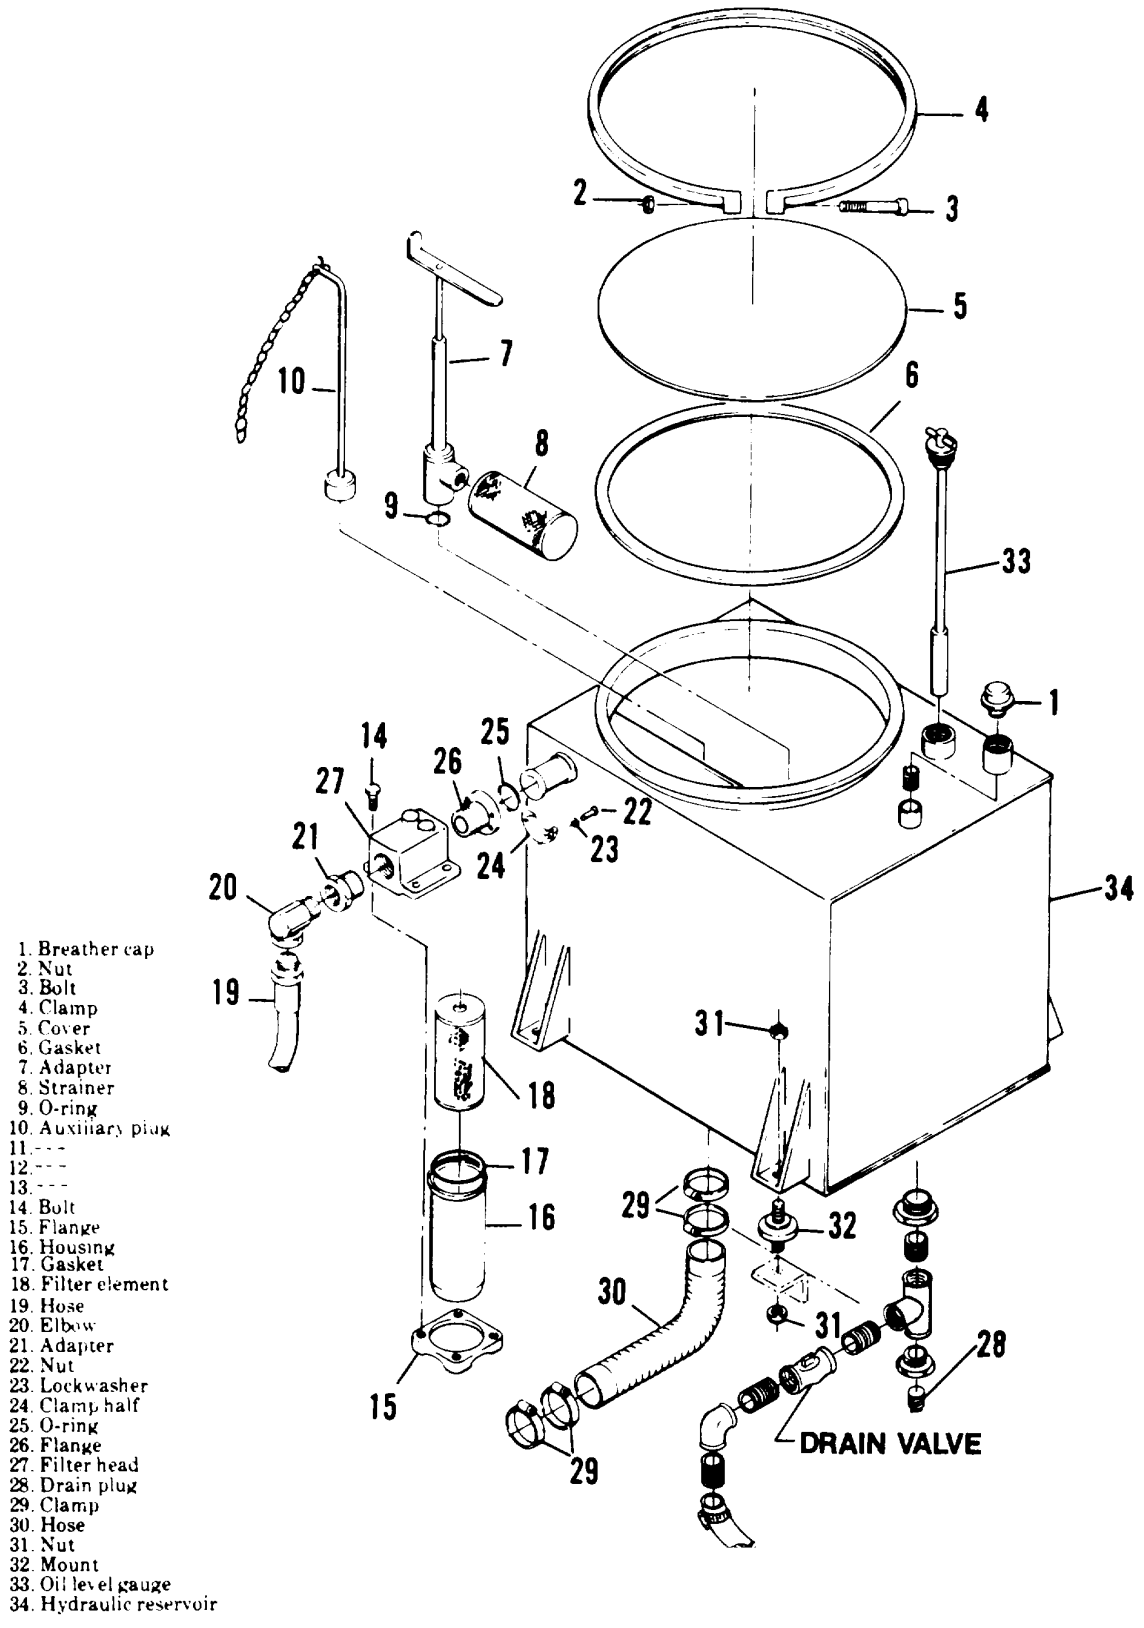

Figure 4-9. Hydraulic reservoir, exploded view.
(1) *Removal and installation.* Remove the breather cap (1, fig. 4-9) from the top of the hydraulic reservoir by rotating the cap counterclockwise and removing. Installation is opposite of removal.
(a) Loosen the nut (2, fig. 4-9) and bolt (3) and remove the clamp (4) retaining the hydraulic tank cover and remove the tank cover (5) and gasket (6).
(a) Drain reservoir by removing drain plug (28, fig. 4-9). or open drain valve above plug.
(1) Remove cover from hydraulic reservoir.
(2) Remove suction adapter and install auxiliary plug in place of adapter.
(3) Unscrew hose (19, fig. 4-9) from reservoir and from control valve. Loosen clamps (29) and remove hose (30) at reservoir and at hydraulic pump.
(4) Install new hoses and replace suction adapter and reservoir cover.